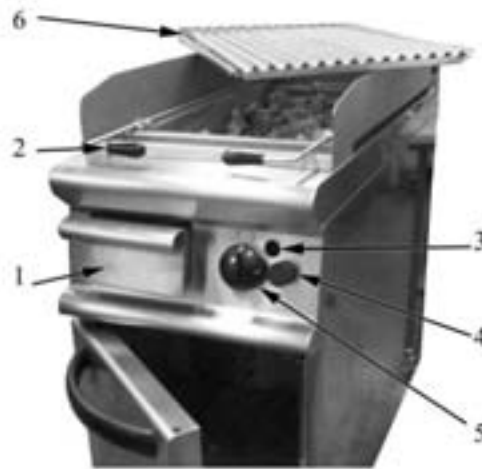
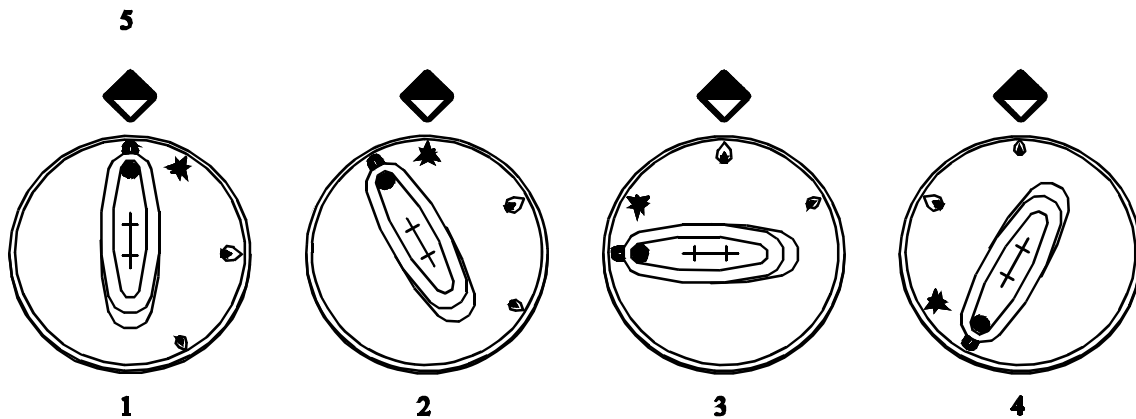

Fig. 1
Fig. 2
Push the knob (pos. 5 in Fig. 1) and turn it towards the left to the pilot flame position (pos. 2 in Fig. 2); hold the knob down and at the same time push the piezoelectric ignition button (pos. 4 and in Fig. 1).
You can observe the pilot flame through the inspection hole (pos. 3 and in Fig. 1).
Push the knob slightly and turn it towards the left until to the position as in pos. 3 in Fig. 2, so the rack heating can start up.
You can select the latic stones temperature between maximum (pos. 3 in Fig. 2) and minimum (pos. 4) positions.